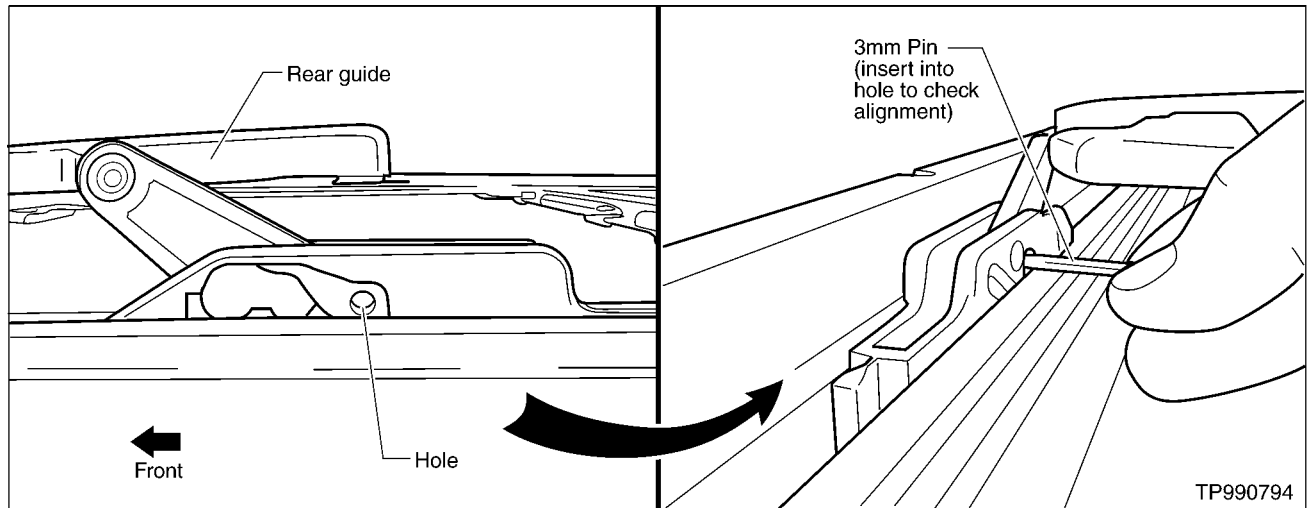

Figure 20
22. Move the rear guide until the holes on the rear guide and link line up with each other (see Figure 20).
23. Insert a 3mm punch or pin through the holes to make sure they are completely aligned (see Figure 20).